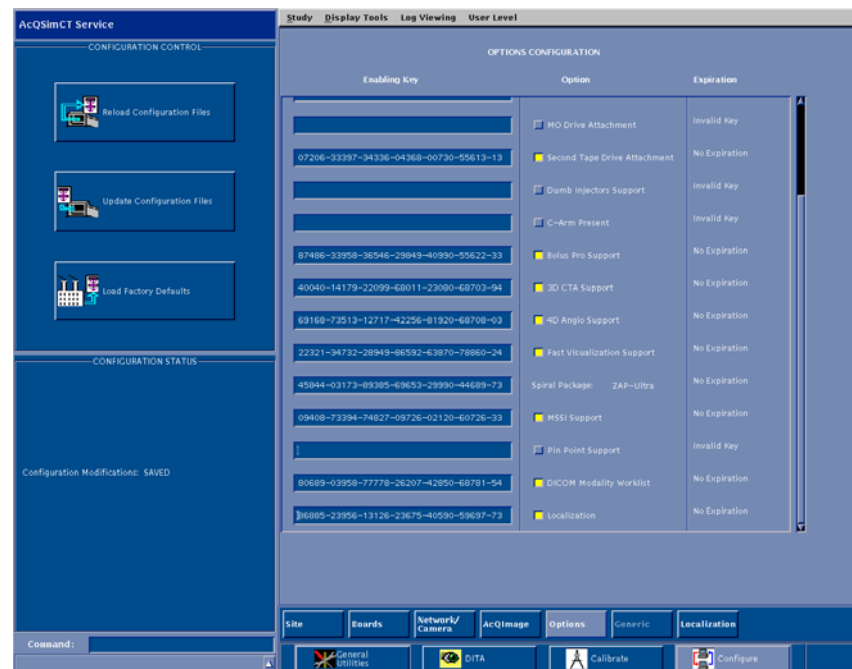

FIGURE 2 LOCALIZATION
5. Select **Update Configuration Files** to save information. Note the Localization button at the bottom of the screen will become active. See Figure 2.